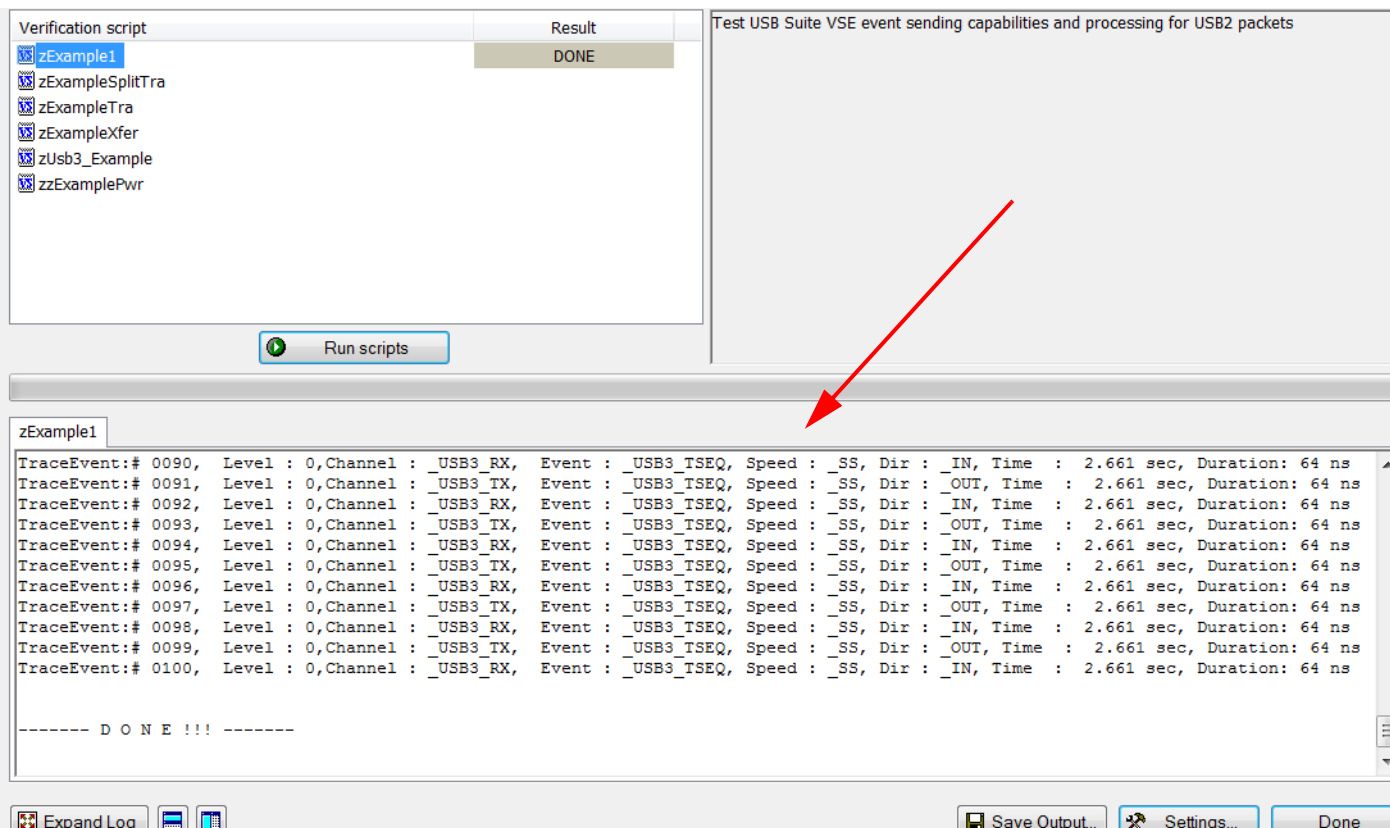

Figure 10.77: Verification Script Results
2. Press the button **Run scripts** after you select scripts to run. VSE starts running the selected verification scripts, shows script report information in the output windows, and presents the results of verifications in the script list (see Figure 10.77 on page 480).